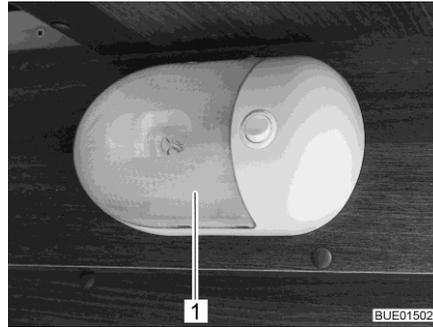

Fig. 296 Surface mounted light
- Carefully push the transparent cover (Fig. 296,1) together from both sides, pull it lightly from the switch and pull it off forwards.